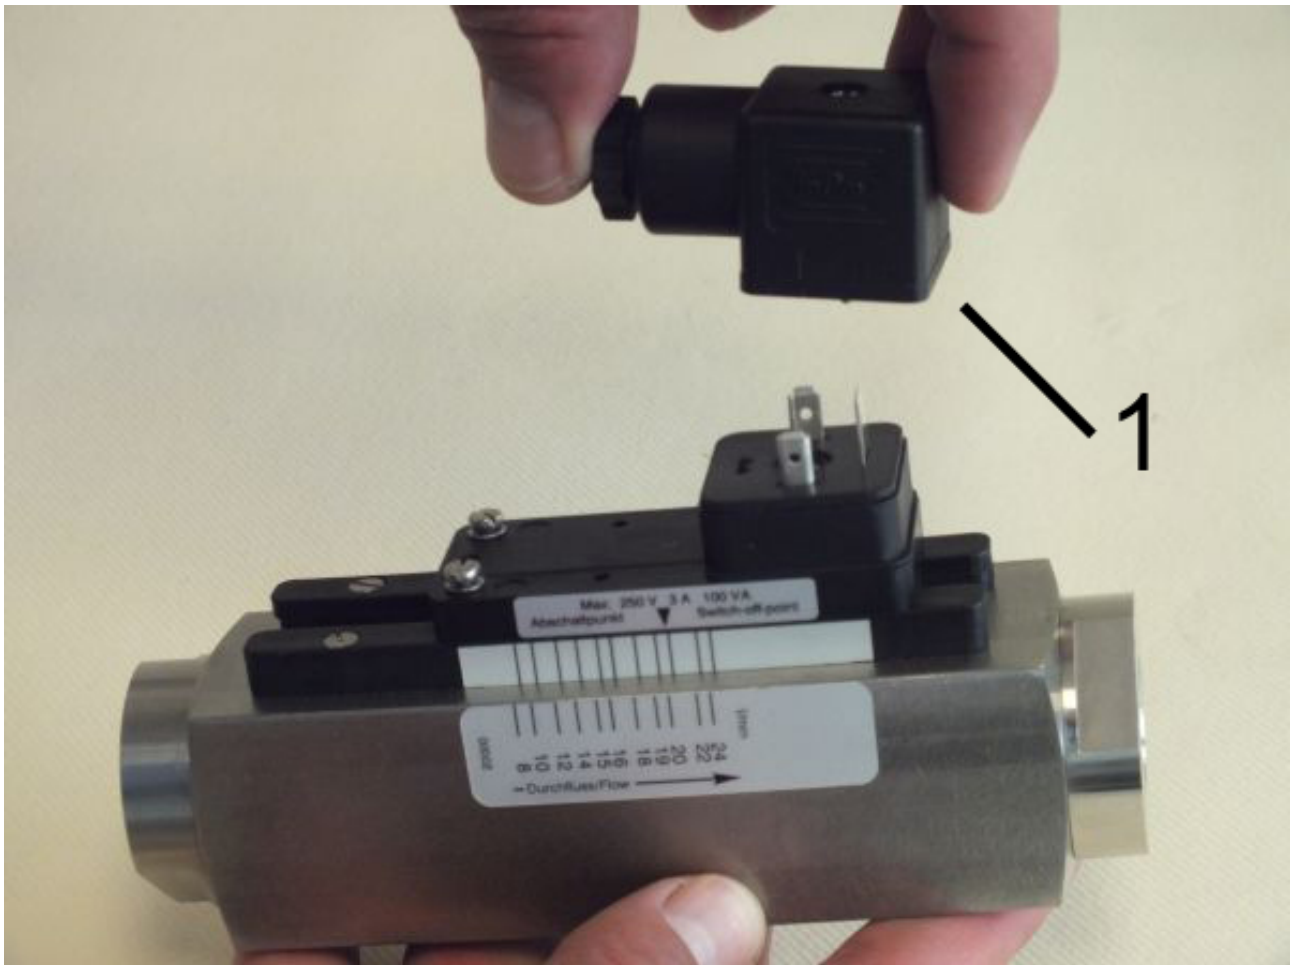

Fig. 28: Remove socket
2. ➤ Remove socket (Fig. 28/1)
9. ➤ Place the female socket onto the connecting plug and tighten the fixing screw (*Fig. 28/1*)